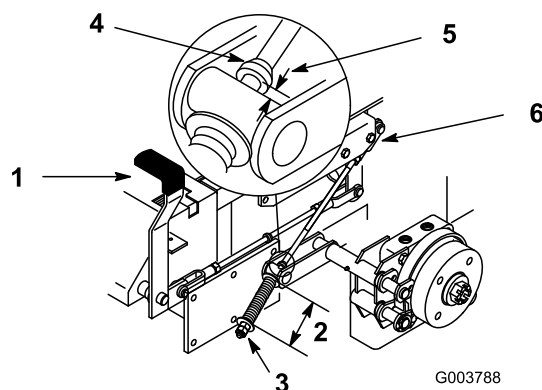

Figure 56
The measurement should be 2-3/4 inch (70 mm) between washers (Figure 56).
3. If adjustment is necessary, loosen the jam nut below the spring and tighten the nut directly below the yoke (Figure 56). Turn the nut until the correct measurement is obtained. Tighten the two nuts together and repeat on opposite side of unit.
The measurement should be 3/16-1/4 inch (5-7 mm) (Figure 56).
7. If adjustment is necessary, loosen the jam nut directly below the yoke. Turn the bottom rod until the correct measurement is obtained (Figure 56). Tighten jam nut at yoke